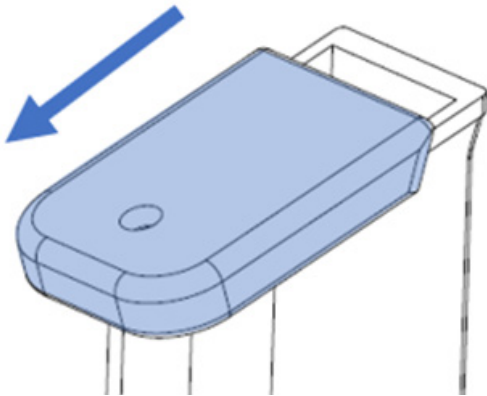
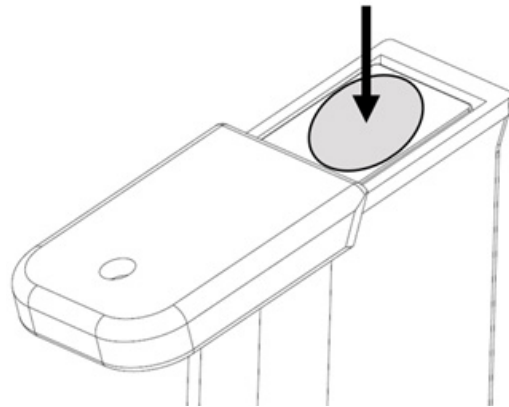

Figure 64: Direction to remove the magazine's floor plate.
Figure 65: Hold with your thumb the spring to avoid uncontrolled release of tension, as this could cause injury.
5. Remove the Glock's tool/punch from the hole and slowly slide the floor plate off the magazine. Carefully remove the insert and spring with the follower (Figure 64 / Figure 65).